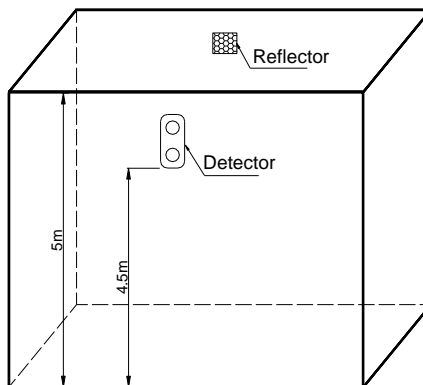

Fig. 4
- a) When space height is not over 5m, the detector and reflector should be mounted on the two facing walls 0.5m from the ceiling, as shown in Fig. 4.